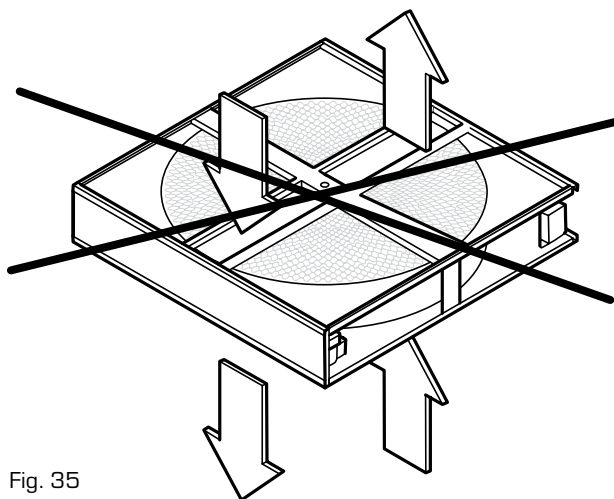

Fig. 35
Keep in mind that the PUR (D) rotor cassette is not designed for horizontal installation! (Fig. 35)